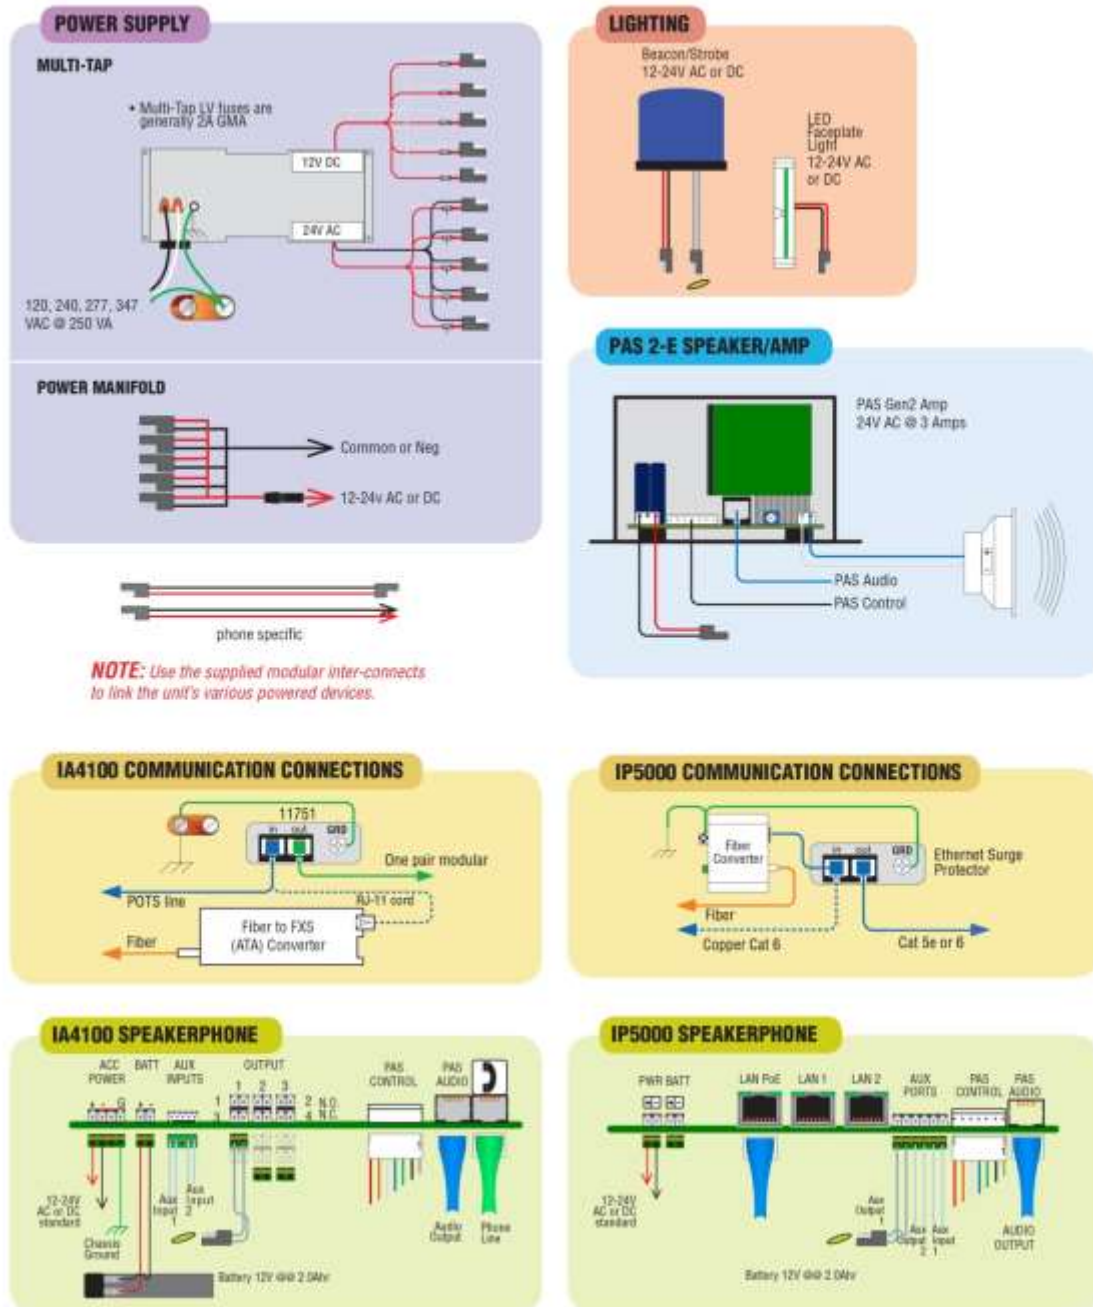

Figure 7
4.2.4.4 Reapply power to the unit (See Figure 7 on Page 21).